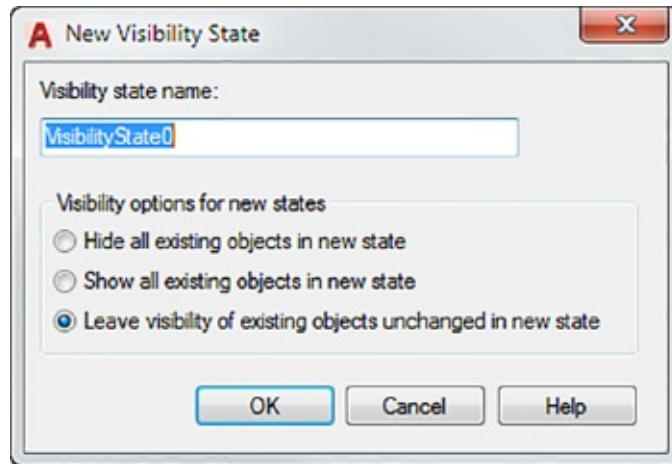

FIGURE 17.25 Adding a visibility state
3. Click the New button to open the New Visibility State dialog box (see Figure 17.25).